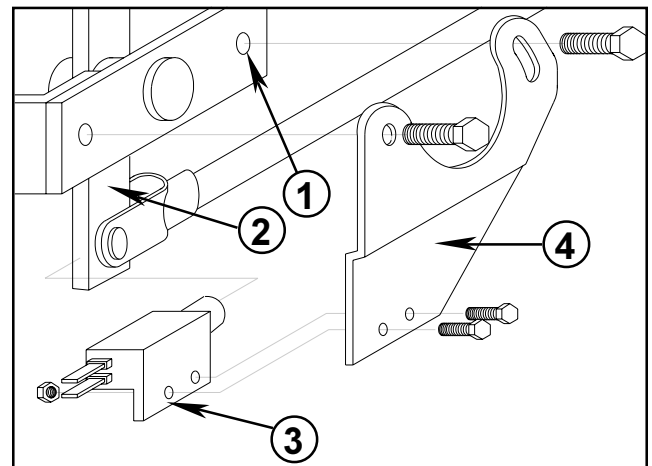

FIG. 16
3. Assemble the Brake Switch onto the Brake Switch Mounting Bracket using the (2) 3/16" x 3/4" hex hd. cap screws and lock nuts. Assemble Brake Switch Mounting Bracket onto Brake Arm Pivot Assembly by removing the (2) 5/16" hex hd cap screws on the side of the Brake Pedal Mount (Refer to MULTI-PRO® 1100 PARTS MANUAL - Brake Pivot Assembly Part No. 42754). Place the Brake Switch Mounting Bracket on the outside so that the Brake Arm activates the switch when the Brake Pedal is depressed and reinstall the hex hd cap screws as per FIG. 16. The Brake Switch should be adjusted so that the Electric Brakes engage when the Brake Pedal is depressed 1/8" - 1/4". This can be done by pivoting the Brake Switch Mounting Bracket and then tightening 5/16" hex hd screws.